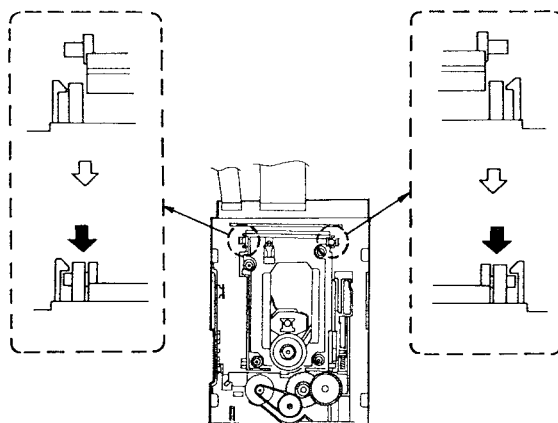

Figure 32
- (11) Lock the rear end of the Traverse Deck as shown in Figure 32.